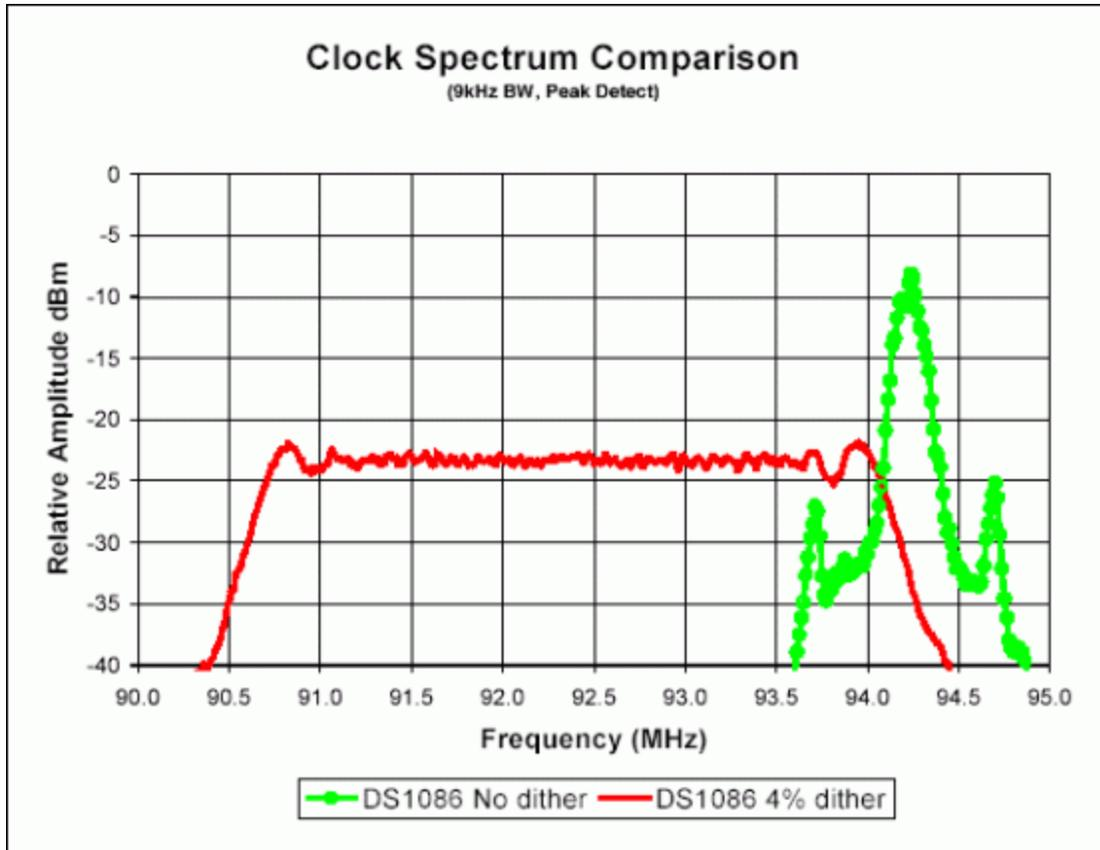

Figure 1. Clock spectrum comparison.
**Figure 1** shows a comparison between a DS1086 signal with no dither and a DS1086 signal with 4% dither enabled. The dithered signal shows approximately a 16dB decrease in amplitude. Using 94MHz as an example (for illustration purposes only), the 4% dithered signal will range from 90.24MHz to 94MHz since the frequency is always dithered down. A 2% dithered signal would range from 92.12MHz to 94MHz.